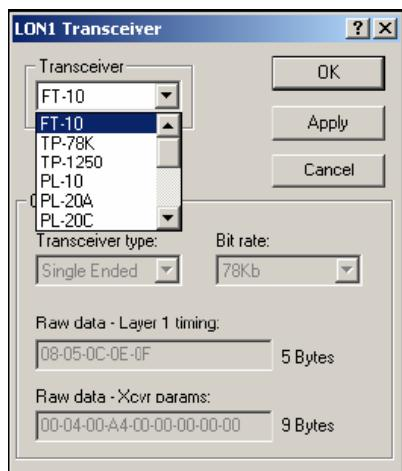

Figure 15: Transceiver Dialog Box
5. Click **Transceiver**. The Transceiver dialog box appears (Figure 15).